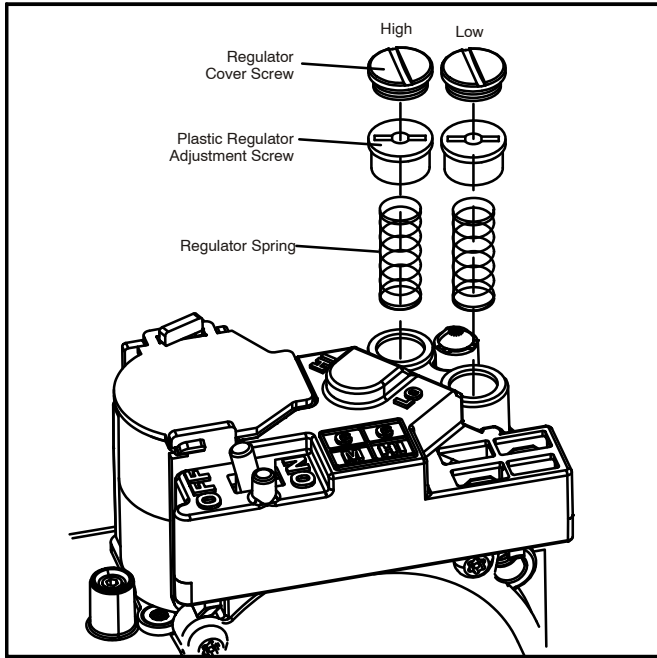

Figure 6
- a - Remove both high fire and low fire springs from the gas valve. See figure 6.